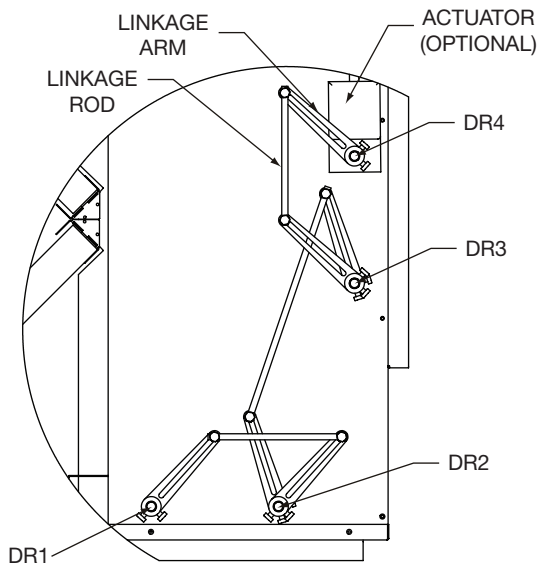

Fig. 46 — Area A Detailed View
5. Place a linkage arm onto DR3 and DR2. See Fig. 46 and 47. for proper positioning. Ensure that swivel joints are fully extended to the end of the linkage arm and tighten.